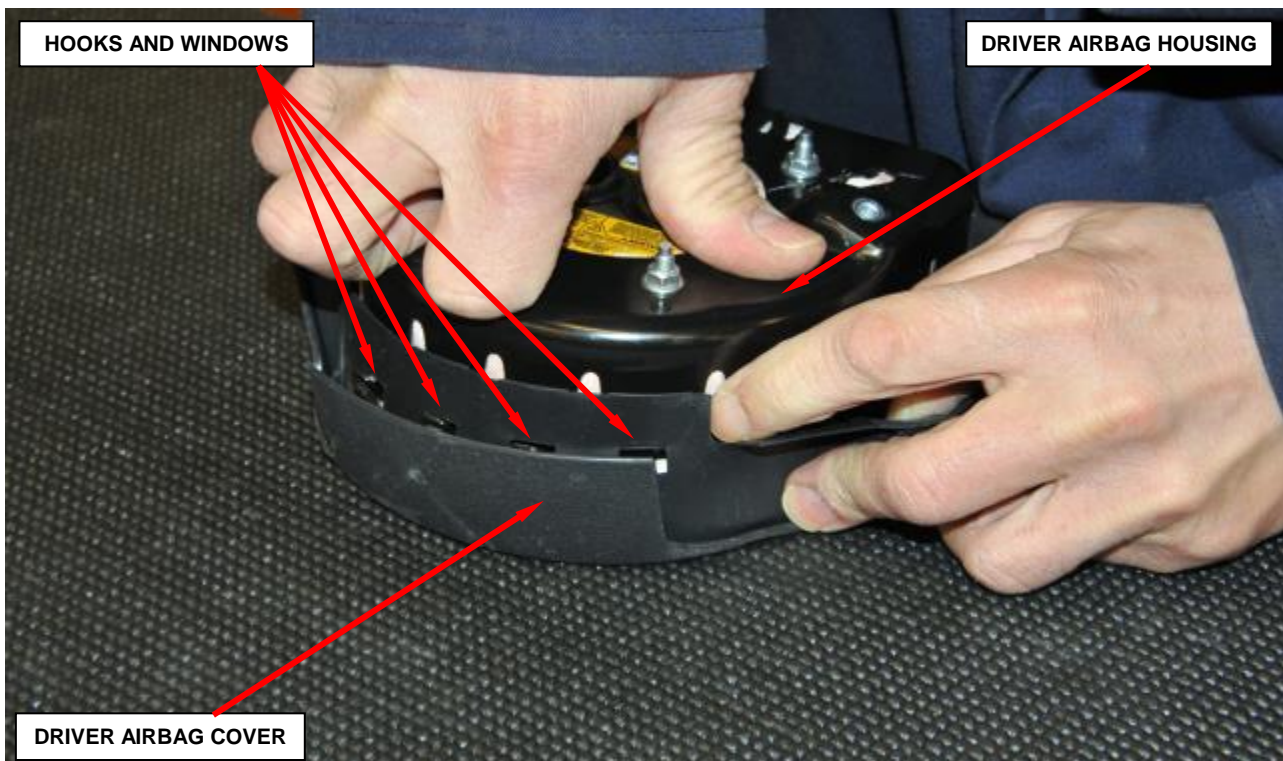

Figure 20 – Driver Airbag Cover
12. Remove the driver airbag cover starting with the left side by pressing down on the driver airbag housing until the hooks unsnap from the windows (Figure 20).